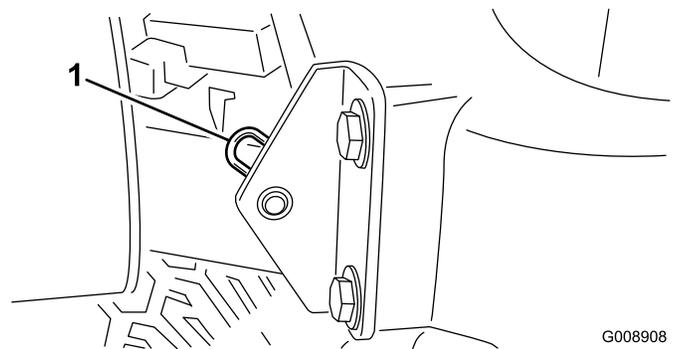

Figure 29
2. Remove the hairpin cotter securing the hood pivot to the mounting brackets (Figure 29).
Note: The flush fittings on the rollers (Figure 29) require a grease gun nozzle adapter. Order Toro Part No. 107-1998 from your Authorized Toro Distributor.